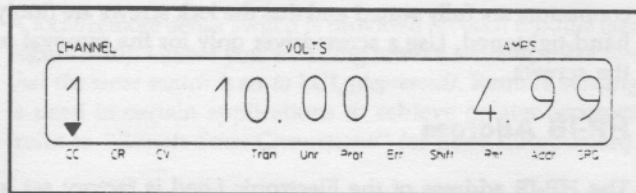

Figure 3-7. Power Test Display
4. Observe that the Electronic Load is drawing 5 A and is operating in **CC** mode. The power supply should be operating in **CV** mode. The Electronic Load front panel display should appear about the same as the one shown in Figure 3-7.